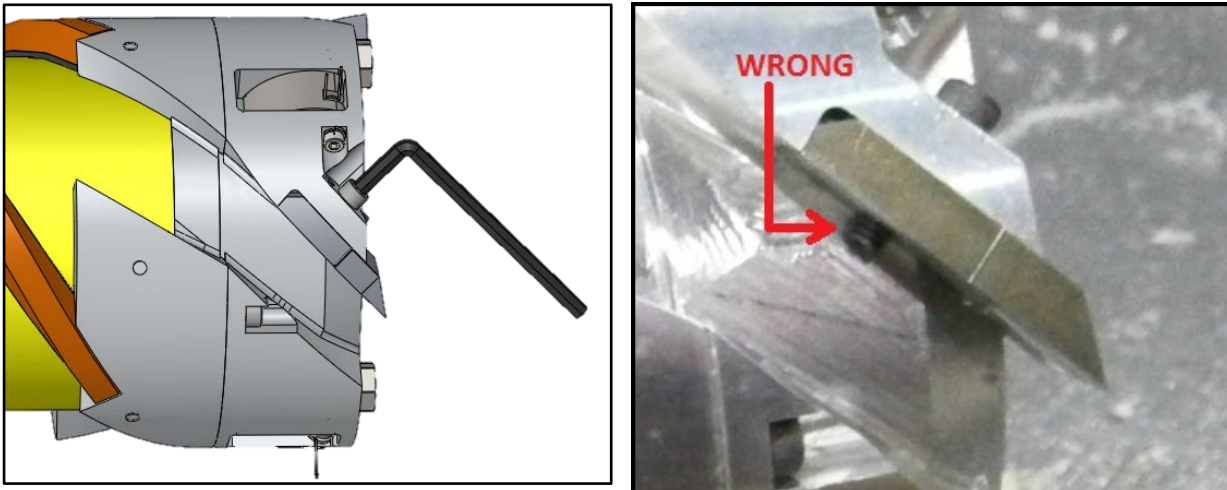

Figure 5: One-Piece Steel Cutter Installation and Removal
1. Using the 5/64-inch Allen wrench, remove the 8-32 socket head cap screw (Figure 5).
2. Install the socket head 8-32 cap screws and tighten them with the 5/64-inch Allen wrench. Use the 1/2" long screws (shorter of included lengths) so that the end of the screw is nearly flush with the cutter (Figure 5).